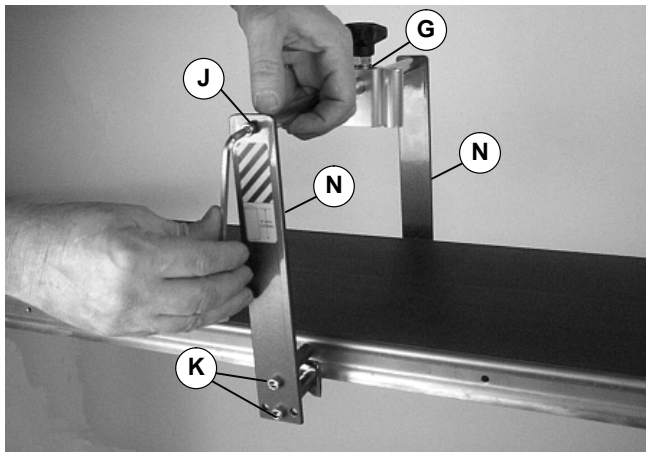

Figure 11
- Loosely install screw (K) and spacer (P) in lower hole of bracket and mounting clip (Q).
- Loosely attach crossbar & positioner (G of Figure 11) to support brackets (N) with screws (J).